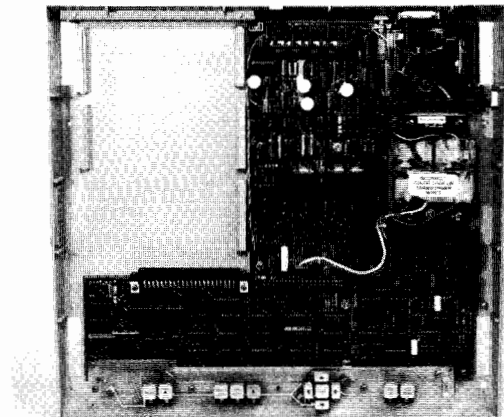

Figure 1-3. Top Cover and Deck Assemblies Identification/Removal
- b. Remove the top cover and upper deck assembly. (See Figure 1-3.)